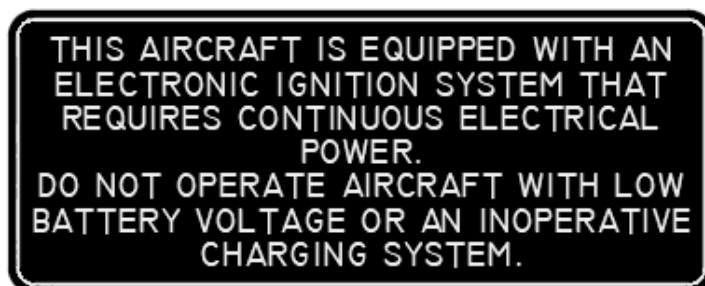

Figure 1 – EIS Warning Placard
19. Apply EIS Warning Placard (item 5) to the instrument panel, adjacent to the ignition switch refer Figure 1.